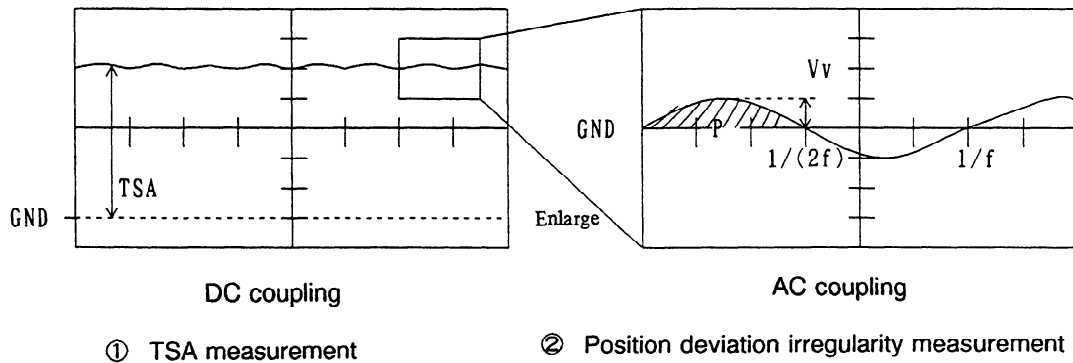

Fig. 6.8 (a) Measuring the TSA and position deviation irregularity
In ② in Fig. 6.8 (a) velocity deviation V_v (V) and vibration frequency f (Hz) is measured. If the checkboard has standard settings, it is 1000rpm when $TSA = 2.4V$ and therefore
If the velocity (V_p (pulse/s)) of the oblique line in ② in fig. 6.8 (a) is integrated it is possible to calculate the position (P (pulse)) deviation in between. Assuming the vibration waveform to be a sine wave, the calculation formula is